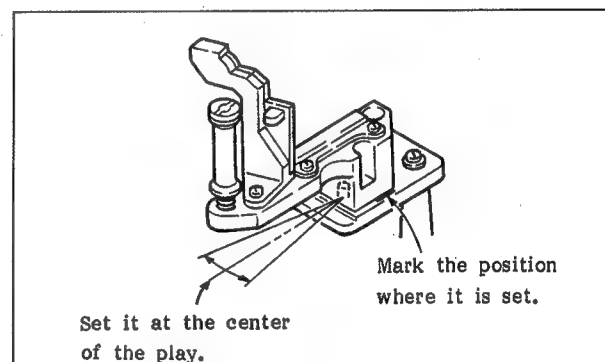

Fig. 6-119 Adjustment of the Position of the T Guide Base Assembly
- Set the T guide base assembly at the center of its play and mark the position of the T roller base as shown in Figure 6-119.